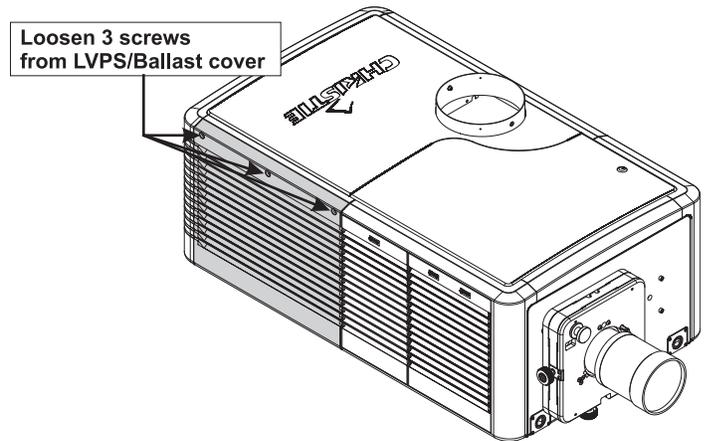

FIGURE 1-8 REMOVE LVPS/BALLAST COVER
1. Using a #2 Phillips, loosen 3 captive screws at the top of the panel. (Figure 1-8)